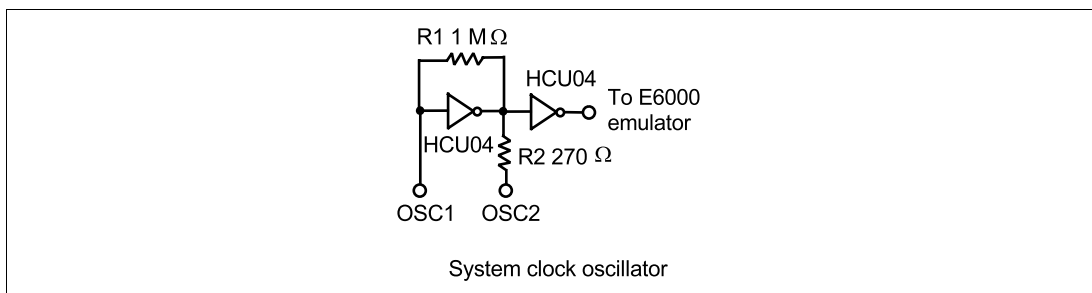

Figure 10 System Clock Oscillator
Select target clock t with the CLOCK command (emulator command). Supply the external clock from the user system to the emulator by inputting the external clock from the OSC1 terminal on the cable head or connecting a crystal oscillator to the OSC1 and OSC2 terminals. When a crystal oscillator is inserted into the OSC1 and OSC2 terminals for the system clock, the clock is generated by the oscillator circuits shown in figure 10. To input an external clock from the user system, input clock pulses satisfying the specifications described in the MCU hardware manual into the OSC1 terminal. The system clock (ϕ) frequency is the same as the external clock frequency.
Figure 10 shows the system clock oscillator on the user system interface cable.
5. While the emulator station is connected to the user system with the user system interface cable, force must not be applied to the cable head. Place the emulator station, user system interface cable, and user system as shown in the example in figure 10.